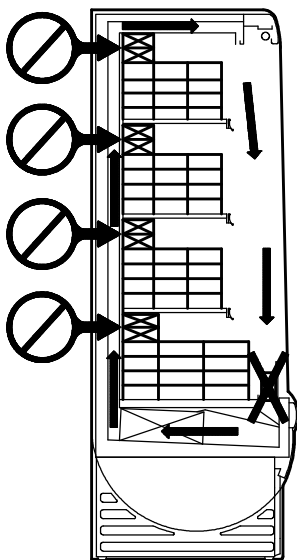

FIG. 15
- Never block the cooling outlets that guarantee the correct flow of air (see FIG. 15 on page 4).